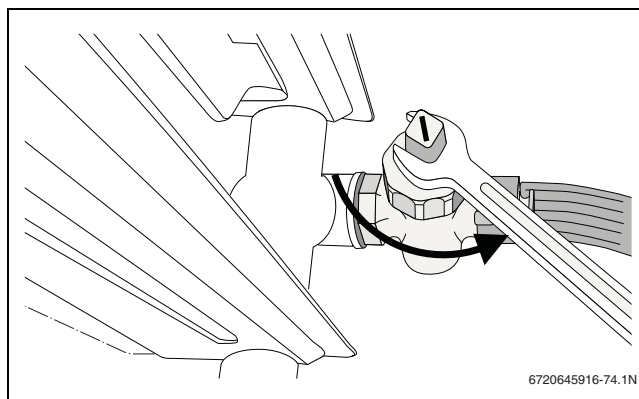

Fig. 76 Draining the heating system (example)
- Drain the heating water at the lowest point of the heating system, using the drain cock or the heating body (→ fig. 76). The (automatic) air vent at the highest point of the heating system/radiator must be open.